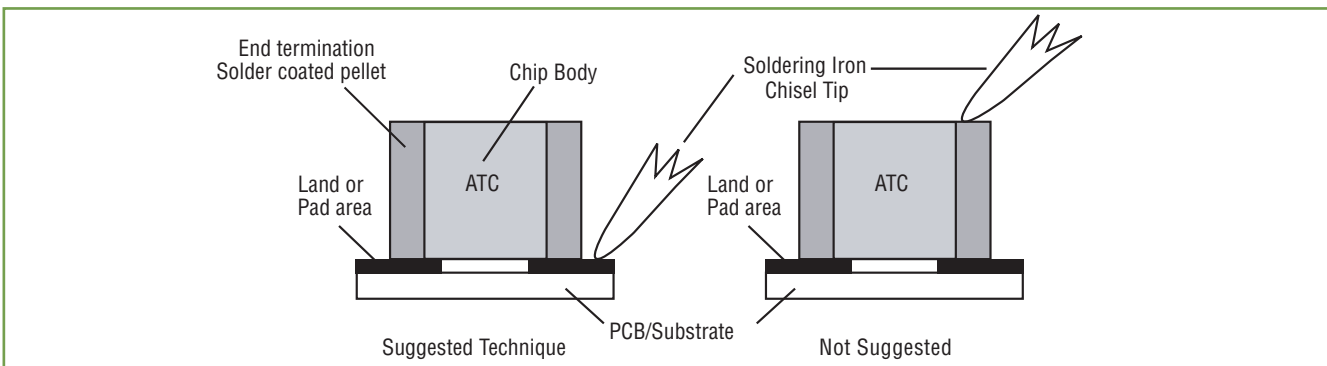

Figure 4. Recommended soldering techniques
7. Make sure that the capacitor is flat on the substrate and place the soldering iron on the land near the chip termination/land interface. When the solder starts to flow, move the tip of the iron slowly towards the chip. Quickly remove the tip once a fillet has formed. See **Figure 4**.